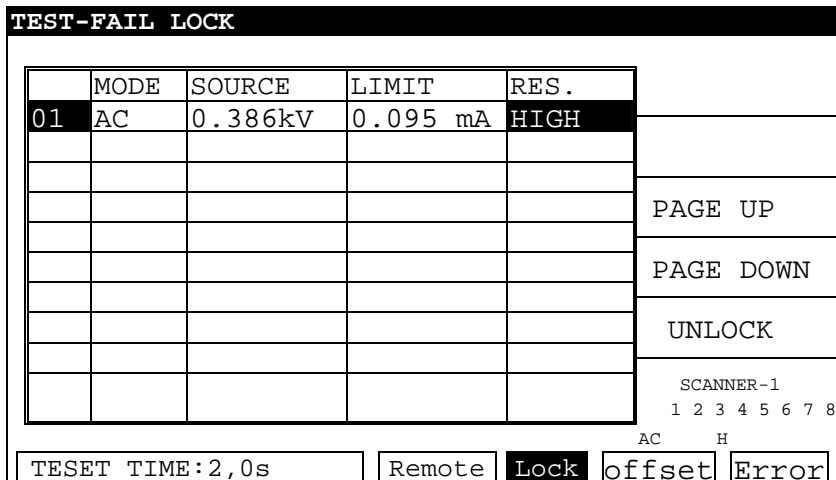

Figure 4-18
4. When FAIL LOCK function activated, if DUT judged as FAIL then Figure 4-18 will be shown.